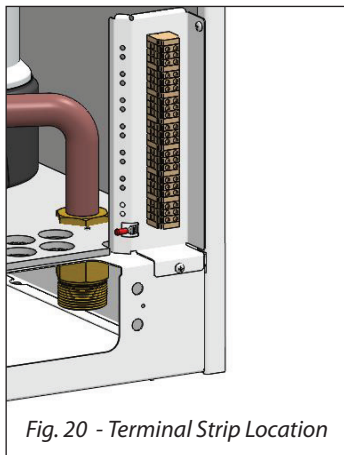

Fig. 20 - Terminal Strip Location
1. Connect the external monitoring device to the line voltage terminals located internally in the lower right corner, as shown in *Fig. 20 on page 31*.